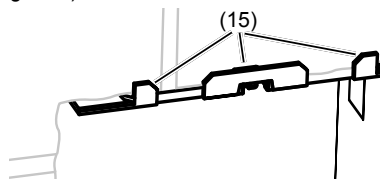

Figure 4: Installation position of fastening elements
- ⓘ The support bracket (15) of the fastening elements must be located on the wall surface (Figure 4).